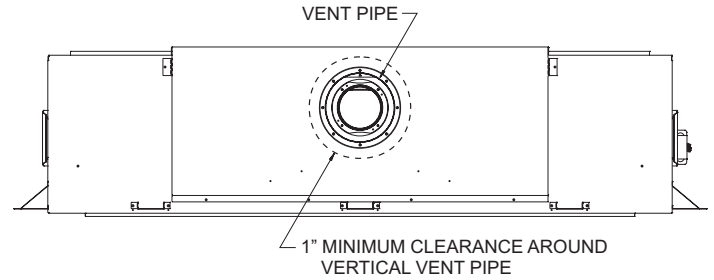

**Figure 26**
6. Attach three middle mount framing brackets to the top front edge of the fireplace. These brackets support the supplied non-combustible board above the fireplace. Preset depth to suit facing material (flush or 1/2in set back depths). See **Figure 26**.